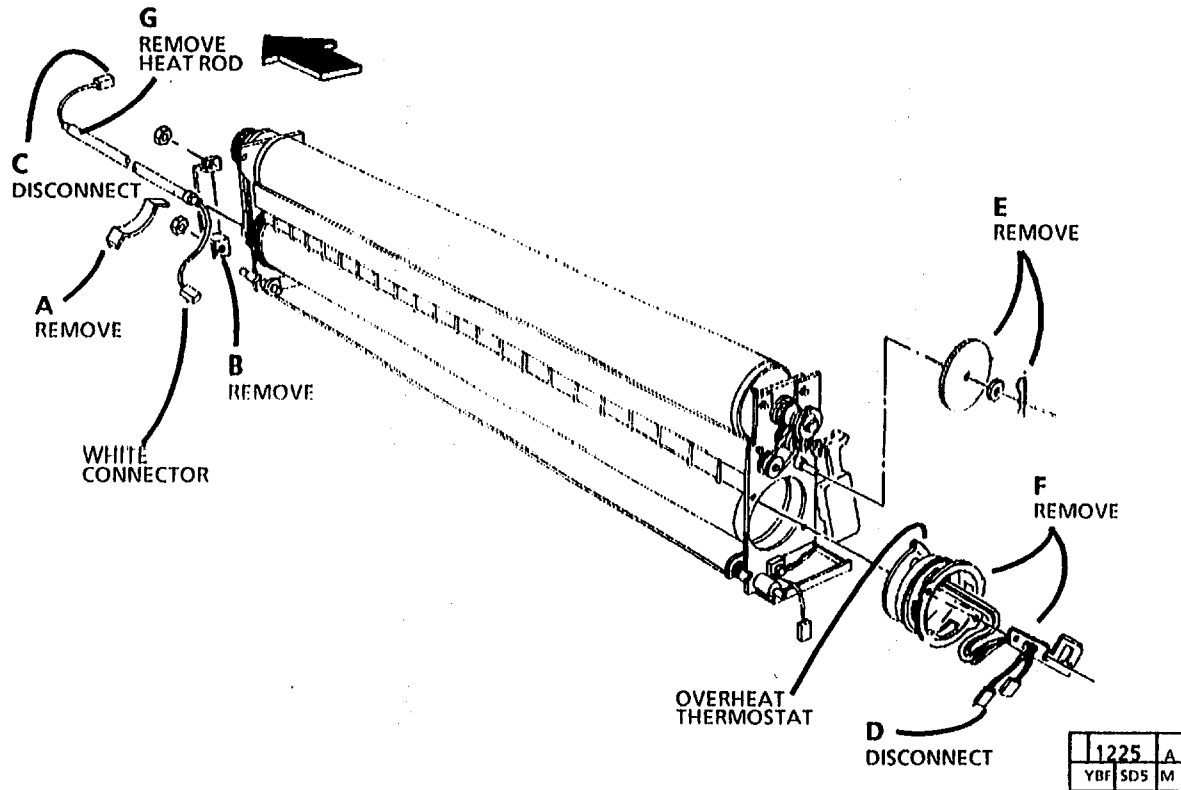

Figure 1. Remove the Heat Rod
2. (Figure 1): Remove the heat rod (REP10.1).